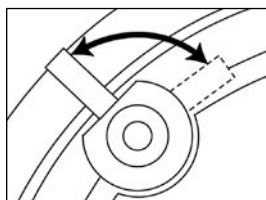

Figure 3. Mounting "dog" rotation.
1. Remove the top piece of styrofoam from the box. You will find two loudspeakers bagged in a lower portion of packing. Remove the loudspeaker from the bag. The metal grille is installed on the loudspeaker and will need to be removed. This is easily done by rotating the mounting 'dogs' out with your fingers and pulling them towards the front of the loudspeaker. This will push the screw heads against the inside of the grille to work it out of the baffle. A pair of plastic grilles is also included in the packing. These may be used in place of the metal grilles to give the loudspeaker the appearance of a light fixture. (See **Figure 3**)